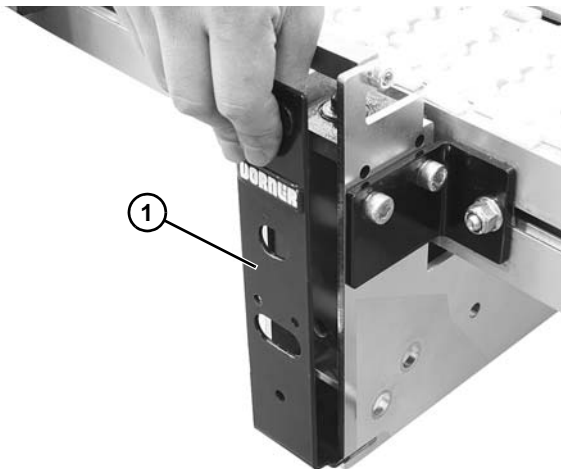

Figure 21
- b. Remove side cover (Figure 21, item 1).